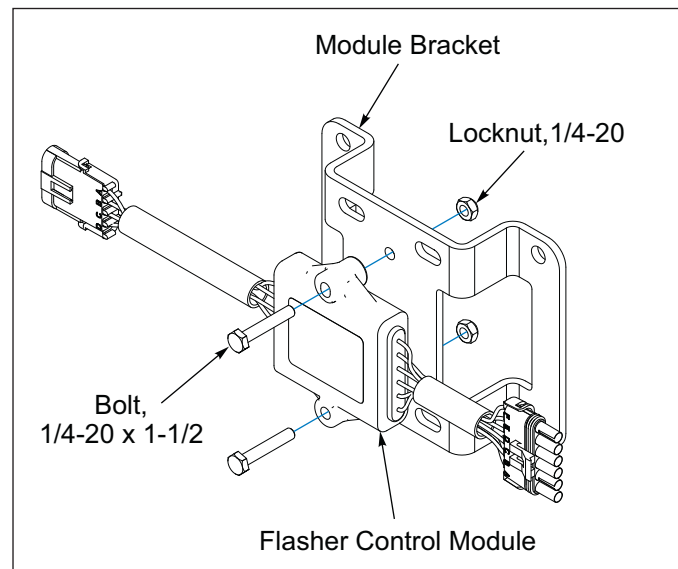

Figure 2-25: Flasher Control Module and Bracket (Before 08/2025)
6. Attach the Flasher Control Module to the Module Bracket with 1/4-20 x 1-1/2 Bolts and Locknuts. **See Figure 2-25.**